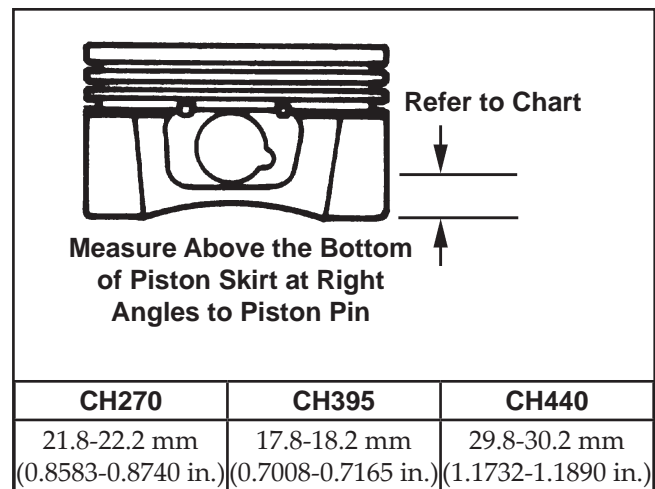

Figure 10-8. Measuring Piston Diameter.
1. Use a micrometer and measure the diameter of the piston above the bottom of the piston skirt and perpendicular to the piston pin. See Figure 10-8.